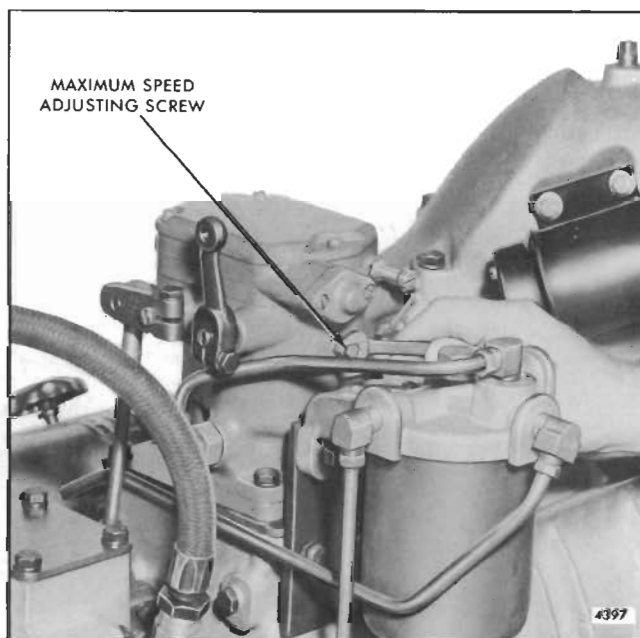

Fig. 11 - Adjusting Maximum No-Load Engine Speed
2. Turn the maximum speed adjusting screw (Fig. 11) in until the screw contacts the throttle linkage internally, limiting the maximum speed of the engine at 8% above the rated full load speed.